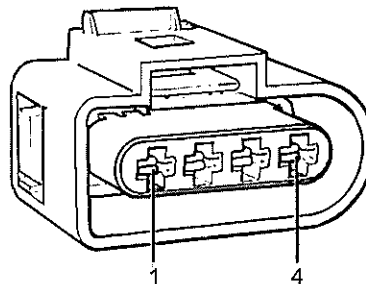

Fig 15 Connector plug for intake manifold temperature sender (G72)
20.11 If the set-point value is not reached, replace the intake manifold temperature sender (G72) (see Fig 15).